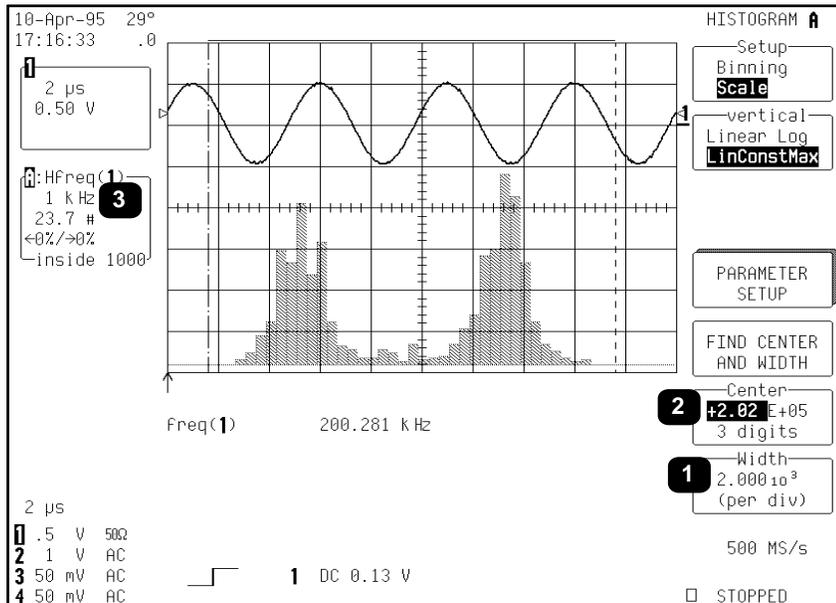

Figure 14-7.
**LinConstMax** sets the vertical scaling to a linear value that uses nearly the full vertical display capability of the scope (Figure 14-7). The height of the histogram will remain almost constant.